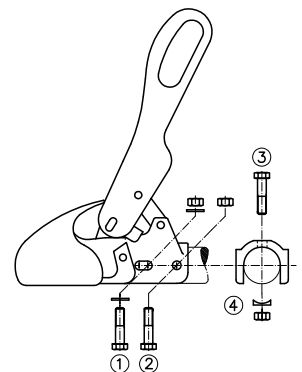

Fig. 3:
The WS 3000-H/L/LB are specially designed for inertia braking systems and are fitted with crossways screw connection (1)+(3) and **40 mm** hole spacing (Fig. 3). The fastening material is not included with the product.
2.2 If the WS 3000/3500 coupling is being used as replacement for another type of coupling, attention must be paid in respect of the overrun device that the shock absorbers are correctly fitted and that any spacers in the drawbar are correctly reinstalled. With the WS 3000-D, please use the provided \varnothing 12x34 mm or \varnothing 12x49 mm bolts to assist with this depending on the size of the drawbar diameter. Use \varnothing 14x63 mm bolts for the WS 3500-D. Please use the provided \varnothing 12x34 mm or \varnothing 12x49 mm bolts as to assist with this depending on the size of the drawbar diameter. Use bolts to push through when removing the fastening screw (2) or (3) (Fig. 3) depending on the type of shock absorber fastening, and insert in the drawbar for centering the shock absorber when connecting/dismantling the ball coupling. Remove the bolt again when inserting the new fastening screw.